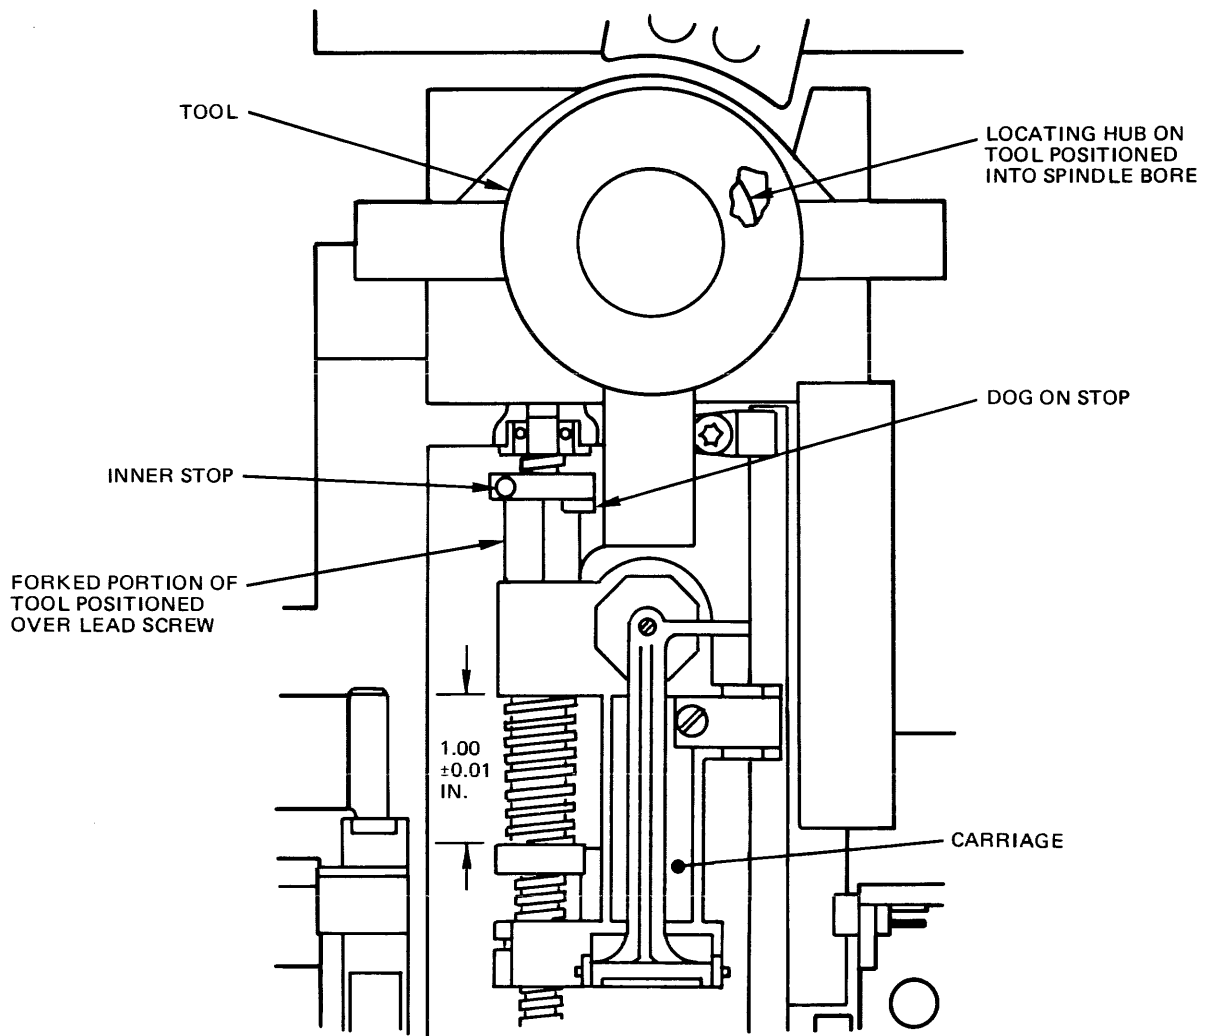

Figure 1-4. Inner Stop Adjustment Tool, Installed
The compression spring should be compressed by positioning the preload nut such that the spacing between the nut and the carriage is 1.0 inch. See Figure 1-4.
- a. With door open (carriage up) and carriage assembly in approximately track 00 position (toward stepper motor), insert Inner Stop Adjustment Tool as shown in Figure 1-4.